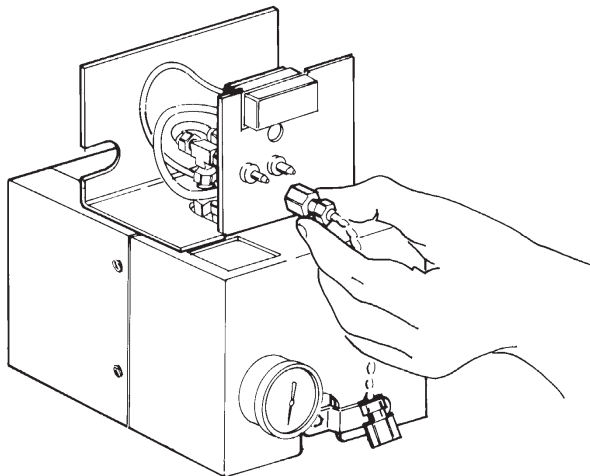

Figure 3.2
5. Place the two brass caps over the output tubes on the mixing jets. See Figure 3.2 on the next page.